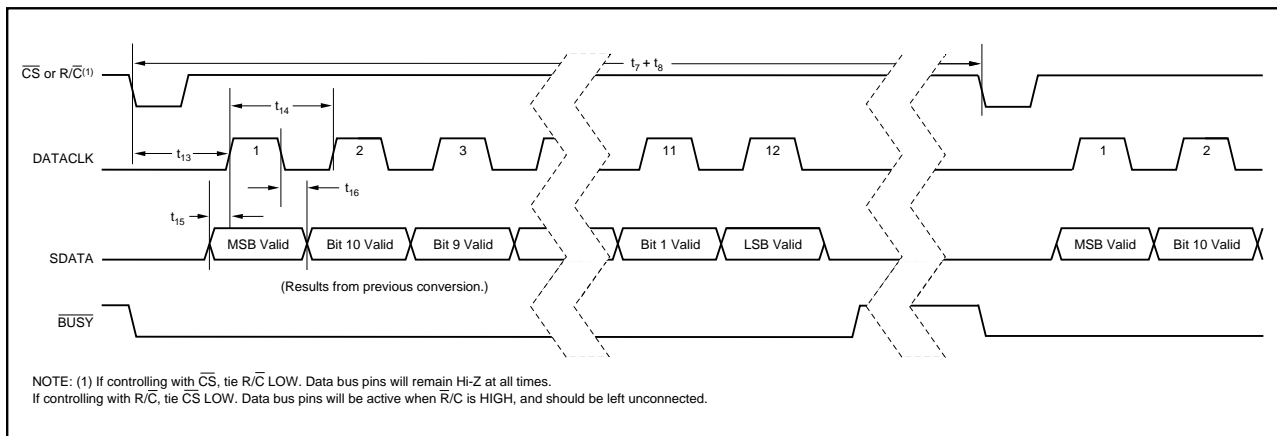

FIGURE 4. Serial Data Timing Using Internal Data Clock (TAG tied LOW).
NOTE: (1) See Figures 4, 5, and 6 for constraints on data valid from conversion "n-1".
To use the internal data clock, tie $\text{EXT}/\overline{\text{INT}}$ (pin 8) LOW. The combination of R/\overline{C} (pin 22) and \overline{CS} (pin 23) LOW will initiate conversion 'n' and activate the internal data clock (typically 900kHz clock rate). The ADS7806 will output 12 bits of valid data, MSB first, from conversion 'n-1' on SDATA (pin 19), synchronized to 12 clock pulses output on DATACLK (pin 18). The data will be valid on both the rising and falling edges of the internal data clock. The rising edge of \overline{BUSY} (pin 24) can be used to latch the data. After the 12th clock pulse, DATACLK will remain LOW until the next conversion is initiated, while SDATA will go to whatever logic level was input on TAG (pin 20) during the first clock pulse. Refer to Table VI and Figure 4.